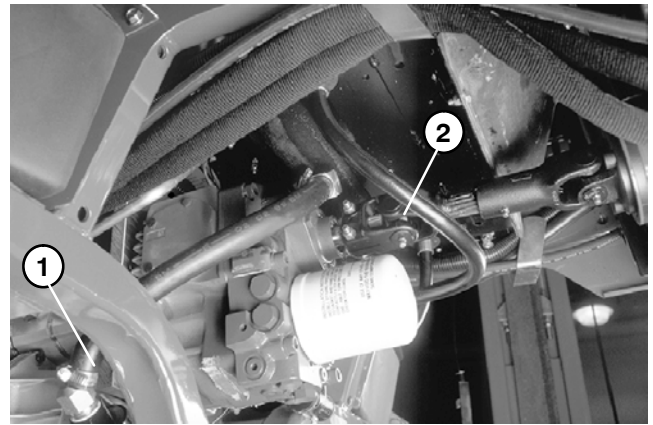

Figure 38
2. Remove two (2) rear cutting units (see Chapter 8 - Cutting Units).
4. Put a drain pan below the transmission. Remove suction line from bottom of in-line filter to let oil drain out of differential (Fig. 38).
7. Disconnect drive shaft from transmission (Fig. 38).
6. Connect drive shaft to the transmission (Fig. 38).
9. Secure suction line to top of in-line filter (Fig. 38).
10. Install two (2) rear cutting units (see Chapter 8 - Cutting Units).